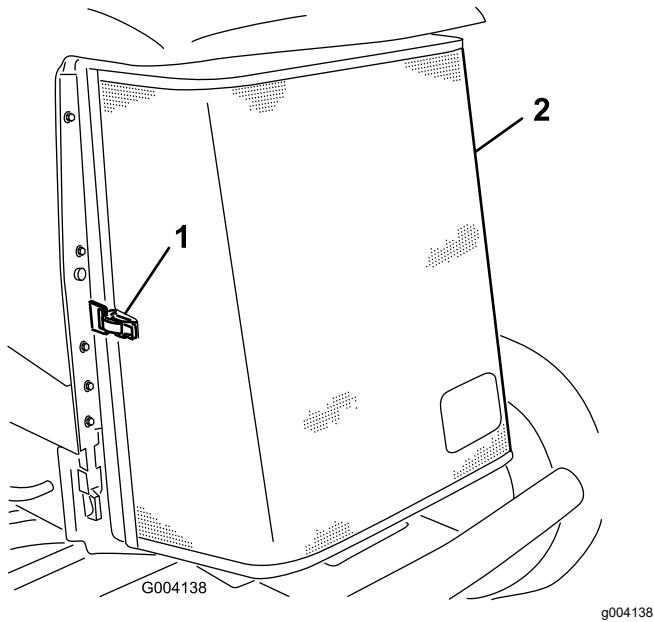

Figure 136
3. Unlatch the clamp and pivot open the rear screen (Figure 136).